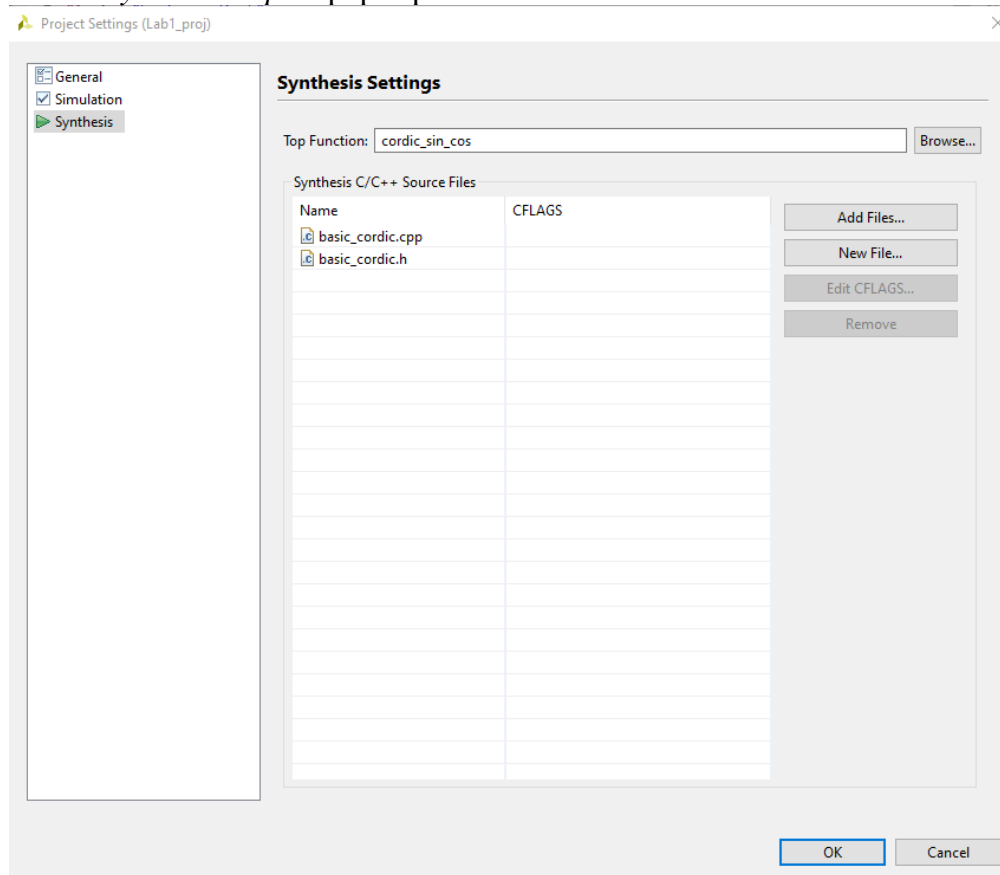

Figure 8: Select the top function.
- Before we start the C++ Synthesis, the top function should be specified for HLS. Click on **“Project -> Project Settings”** and choose **“Synthesis”** on the left column. Browse the target function you want to synthesize to the RTL module. For example, for synthesizing your `sin_cos` function, please choose the corresponding `cordic_sin_cos` as the top function, as shown in Figure 8.